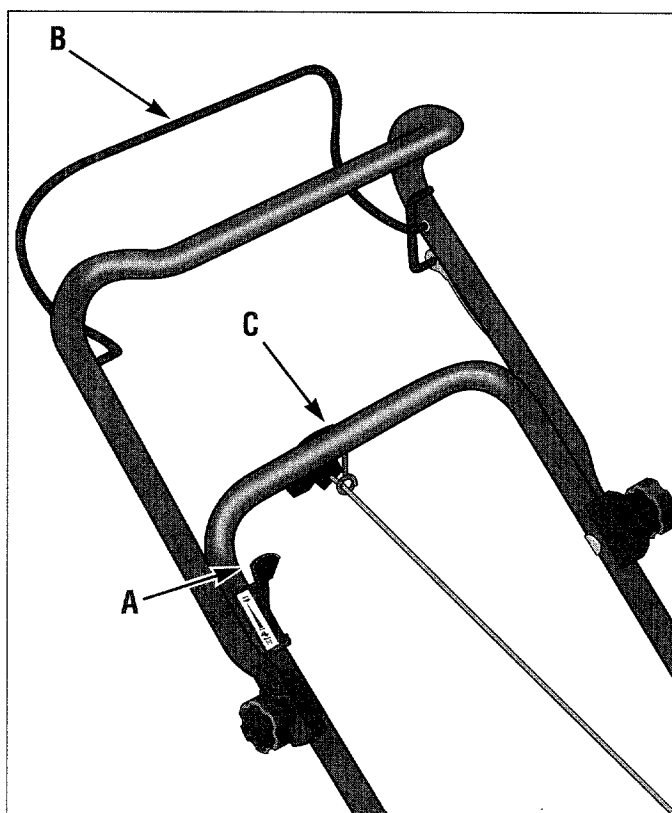

Figure 4-4: Operating controls on Models 34020, 34020C, 34320 and 34320C.
C. Move the Engine Speed Lever (A, Figure 4-4) past the FAST position to the **CHOKE** position.
D. Stand in the operator's position and squeeze the Operator Presence Control Bar (B, Figure 4-4) against the handlebar.
E. Firmly grasp the Recoil Starter Rope Handle (C, Figure 4-4). Slowly pull the Recoil Starter Rope Handle rearward until there is resistance from engine compression.
H. When the engine starts, move the Engine Speed Lever (A) to the **FAST** position. The mower blade is now turning. Push the mower forward to begin mowing.